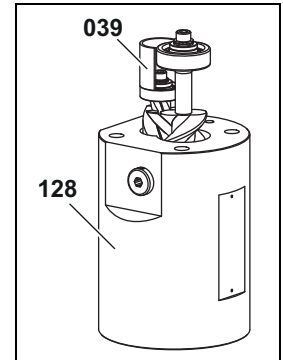

Fig. 8
3. Pull the distance sleeve **039** together with the set of screws out of the measuring housing **128**, see Fig. 8, page 32.